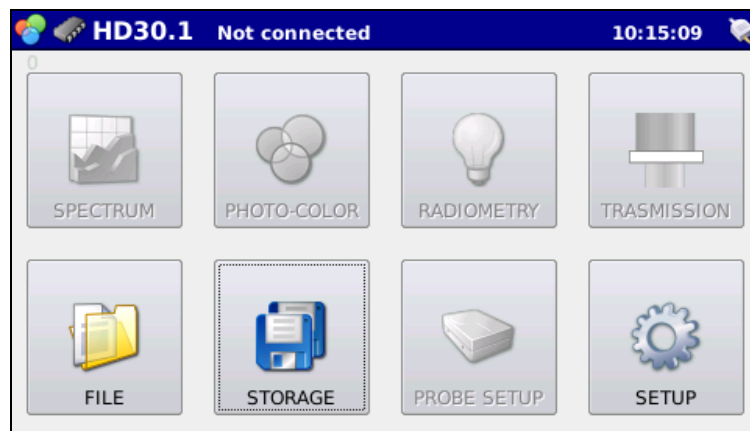
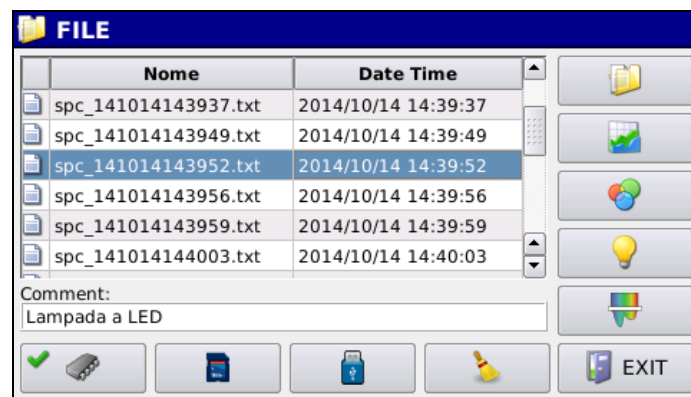
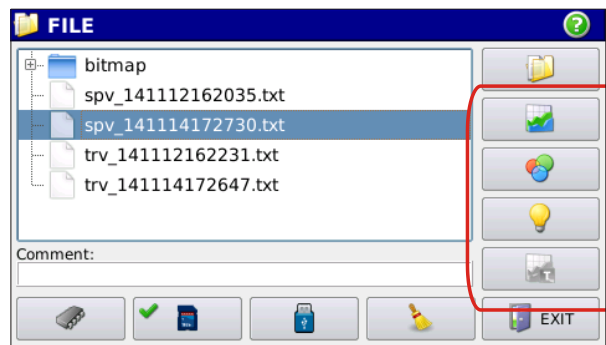
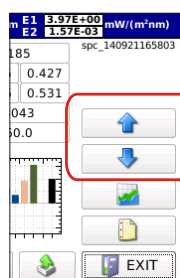

Fig. 4.1: STORAGE and FILE buttons
Fig. 4.8: display of the measurements stored in one of the available memories (internal memory, μ SDcard, USB device)
Fig. 4.9: data contained into selected file can be displayed by using the highlighted keys
Fig. 4.11 : arrow keys can be used to display files stored in memory
The acquired measurements can be handled/displayed using STORAGE and FILE buttons in the main screen (Fig. 4.1).
4.4 Press EXIT to return to the main screen (Fig. 4.1).
4.5 Press FILE in the main screen to display stored measurements (Fig. 4.1). Pressing the button will open the Fig. 4.8 window.
4.5.1 Select the desired file. The selected file will appear on BLUE background (Fig. 4.8); at this stage, the file can be displayed using the buttons on the right of the screen (Fig. 4.9).
The arrows highlighted in Fig. 4.11 allow next measurement to be displayed directly with no need to go back to the FILE menu (Fig. 4.8).
Press EXIT to return to the FILE menu (Fig. 4.8).
Press EXIT to return to the file handling page (Fig. 4.8).